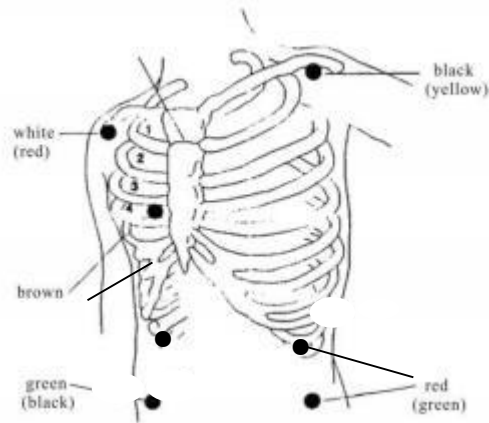

Figure 9-1 Positions of 5-Lead Electrode Placement
- (1) For the placement of the five-lead ECG electrode, refer to the figure as shown in Figure 9-1.